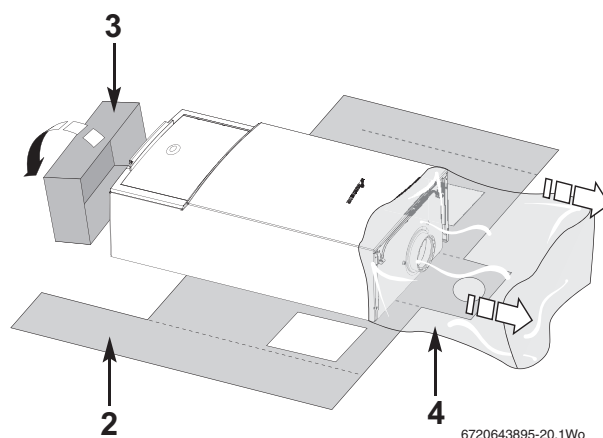

Fig. 25 Remove packaging
- Remove outer carton (1) and place safely away from the working area.
- With the outer packaging removed and the inner sleeve (2) still in place gently lay the boiler on its back.
- The boiler will lie at an angle to the floor to allow the boiler outer casing (5) to be removed.
- The inner sleeve (2) opens as shown in figure 25.
- Remove the protective wrapping (4).